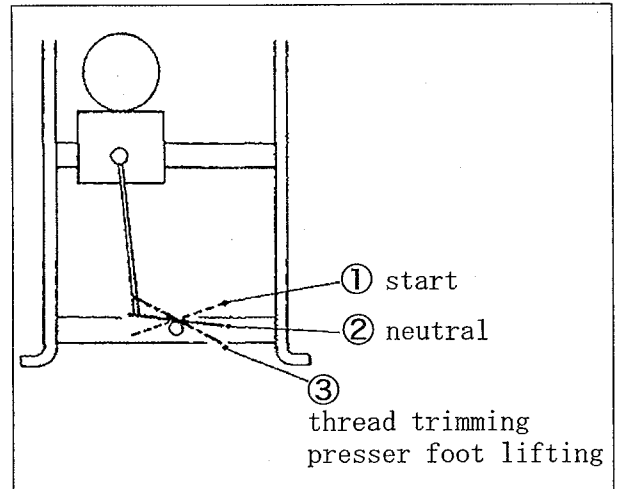

Fig. 1-6
- (1) Heel back the pedal to raise the presser foot.
- (2) Place the material under the presser foot and toe down the pedal. (Fig. 1-6 ①)
- (3) Release the pedal. (Fig. 1-6 ②)
- (4) Heel back the pedal. (Fig. 1-6 ③)
- (5) Release the pedal. (Fig. 1-6 ②)